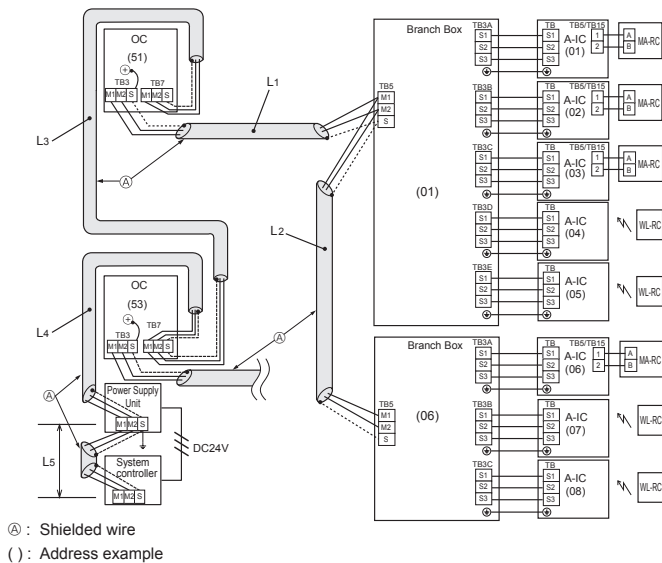

Fig. 7-2
7.4. Branch box/outdoor wire connection and outdoor power supply cord connection (Fig. 7-2)